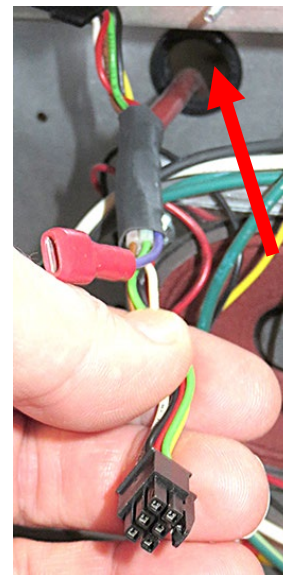

Figure 16
- 20. Route the harness from the OQS sensor, up the vertical channel and up behind the far-left control box. Insert the harness through the left bushing in the rear of the control box (see Figure 16).